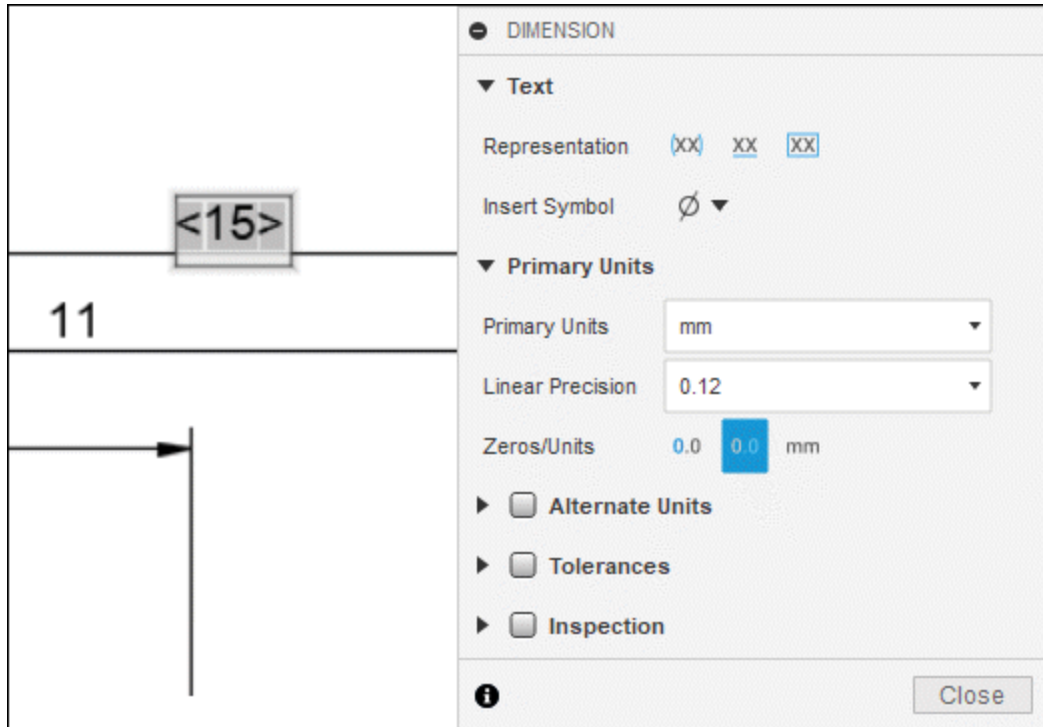

Figure-79. DIMENSION dialog box
- Double-click on the dimension in drawing that you want to edit. The **DIMENSION** dialog box will be displayed; refer to Figure-79.